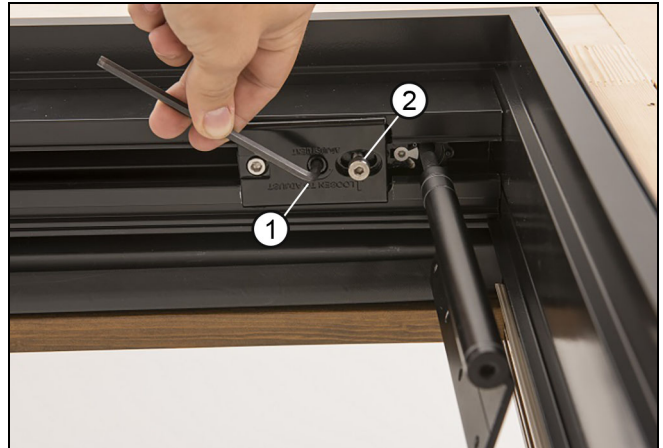

Figure 47
5. Place the hinge in the middle of its adjustment range by rotating the center cam, then fully tighten the bolt closest to the jamb. See Figure 47.